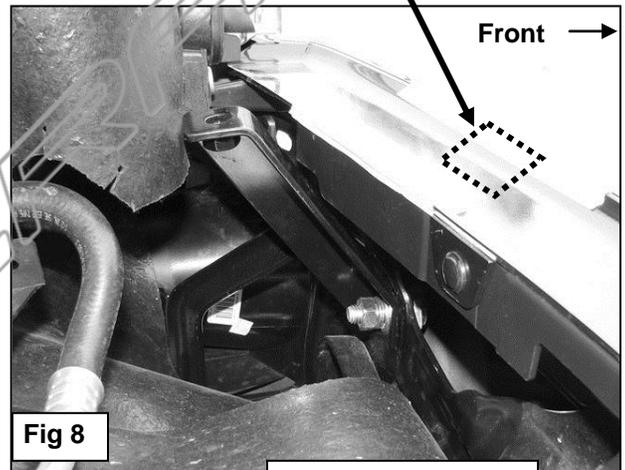

Fig 8
- 5.** Next, open the hood on the vehicle and locate the top of the bumper bracket. Locate the open outer hole in the bracket, (**Figure 6**). Insert (1) 12mm x 35mm Bolt Plate into the gap at the top of the bracket and out through the hole with the threaded end facing to the rear (**Figures 7A & 7B**). Place the driver side Top Support Bracket over the threaded end of the Bolt Plate and secure with (1) 12mm Flat Washer, (1) 12mm Lock Washer and (1) 12mm Hex Nut, (**Figure 8**). Snug but do not tighten hardware.
For easier installation, insert (1) 12mm Hex Bolt per side in the location pictured in Figure 8 to act as a hinge. Snug the hardware but do not tighten, then rotate the Grille Guard up into position